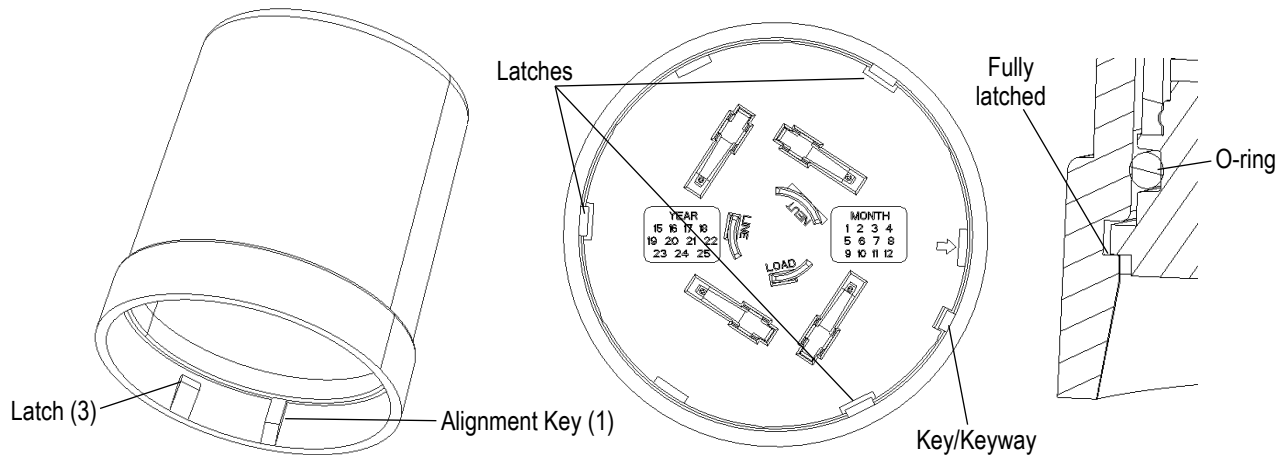

Figure 3a
Changed: Section 3.8 to add detail and figures 3a, 3b, and 3c.
**A. Place the cover onto the base, ensuring the cover key and base keyway are aligned. The cover has a raised key which must be properly aligned with a keyway slot on the perimeter of the base. Reference figure 3a.**